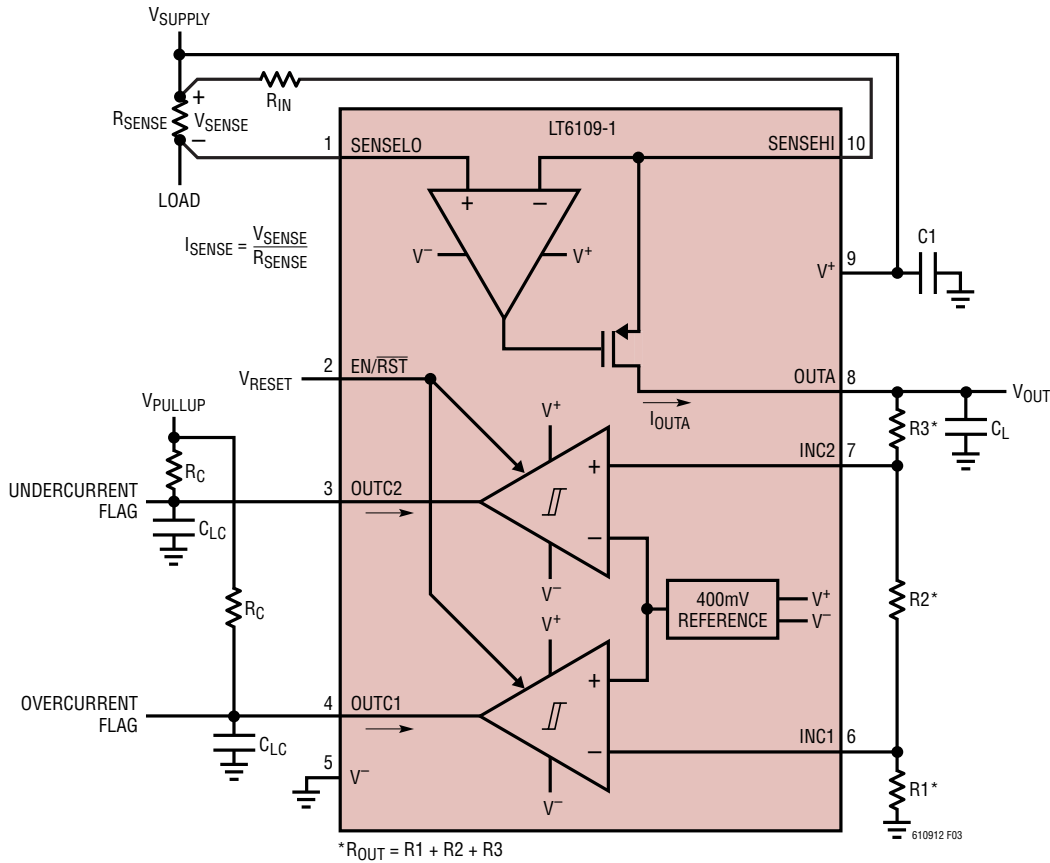

Figure 3. LT6109-1 Typical Connection
**TYPICAL PERFORMANCE CHARACTERISTICS** Performance characteristics taken at  $T_A = 25^\circ\text{C}$ ,  $V^+ = 12\text{V}$ ,  $V_{\text{PULLUP}} = V^+$ ,  $V_{\text{EN/RST}} = 2.7\text{V}$ ,  $R_{\text{IN}} = 100\Omega$ ,  $R_{\text{OUT}} = R1 + R2 + R3 = 10\text{k}$ , gain = 100,  $R_C = 25.5\text{k}$ ,  $C_L = C_{\text{LC}} = 2\text{pF}$ , unless otherwise noted. (See Figure 3)
**TYPICAL PERFORMANCE CHARACTERISTICS** Performance characteristics taken at  $T_A = 25^\circ\text{C}$ ,  $V^+ = 12\text{V}$ ,  $V_{\text{PULLUP}} = V^+$ ,  $V_{\text{EN/RST}} = 2.7\text{V}$ ,  $R_{\text{IN}} = 100\Omega$ ,  $R_{\text{OUT}} = R1 + R2 + R3 = 10\text{k}$ , gain = 100,  $R_C = 25.5\text{k}$ ,  $C_L = C_{LC} = 2\text{pF}$ , unless otherwise noted. (See Figure 3)
where  $R_{OUT} = R_1 + R_2 + R_3$  as shown in Figure 3.
Kelvin connection of the SENSEHI and SENSELO inputs to the sense resistor should be used in all but the lowest power applications. Solder connections and PC board interconnections that carry high current can cause significant error in measurement due to their relatively large resistances. One 10mm × 10mm square trace of 1 oz copper is approximately 0.5mΩ. A 1mV error can be caused by as little as 2A flowing through this small interconnect. This will cause a 1% error for a full-scale  $V_{SENSE}$  of 100mV. A 10A load current in the same interconnect will cause a 5% error for the same 100mV signal. By isolating the sense traces from the high current paths, this error can be reduced by orders of magnitude. A sense resistor with integrated Kelvin sense terminals will give the best results. Figure 3 illustrates the recommended method for connecting the SENSEHI and SENSELO pins to the sense resistor.
then use the configuration shown in Figure 3. The desired trip points and full-scale analog output voltage for the circuit in Figure 3 can then be achieved using the following equations: